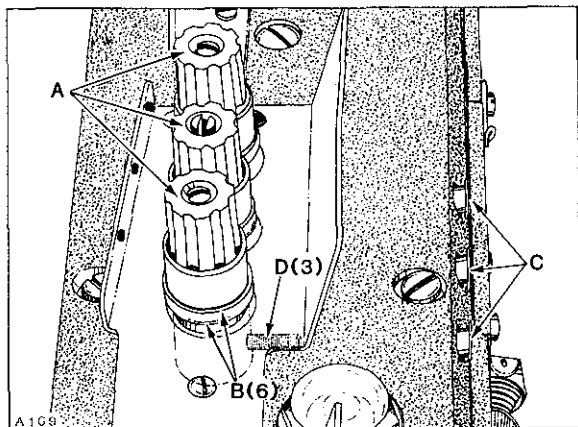

Fig. 39
Needle thread tension assemblies (A, Fig. 39) are set correctly when the tension discs (B) start to release as the presser foot is raised to within 1/8 inch (3.2mm) of the end of its travel and completely released when presser foot has reached its highest position.